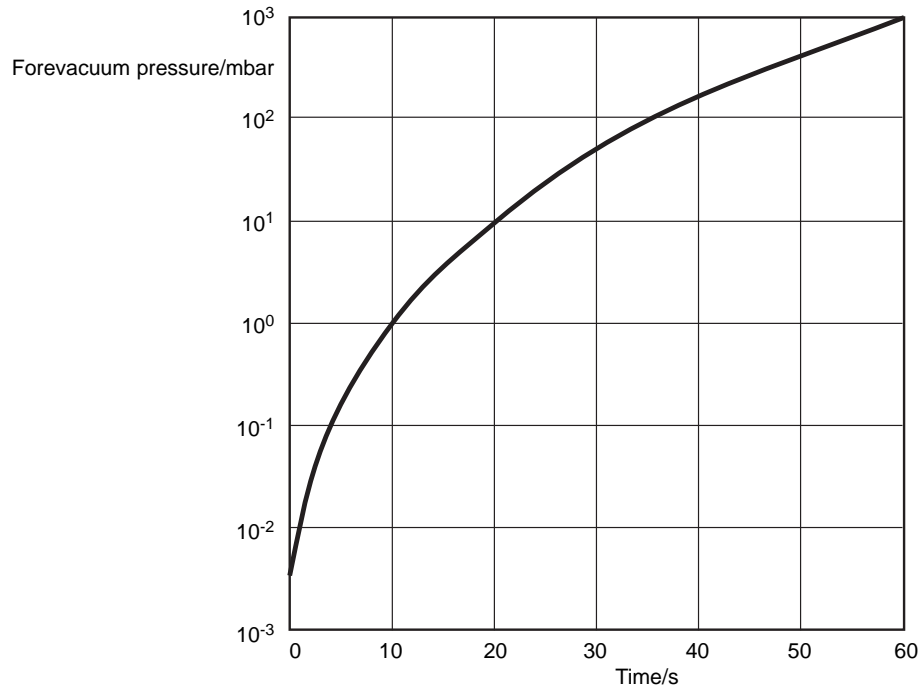

Fig. 30 Curve for safe venting of the MAG; pressure rise as a function of venting time
- When venting the MAG the values shown in the pressure rise curve must be maintained; see Fig. 30.